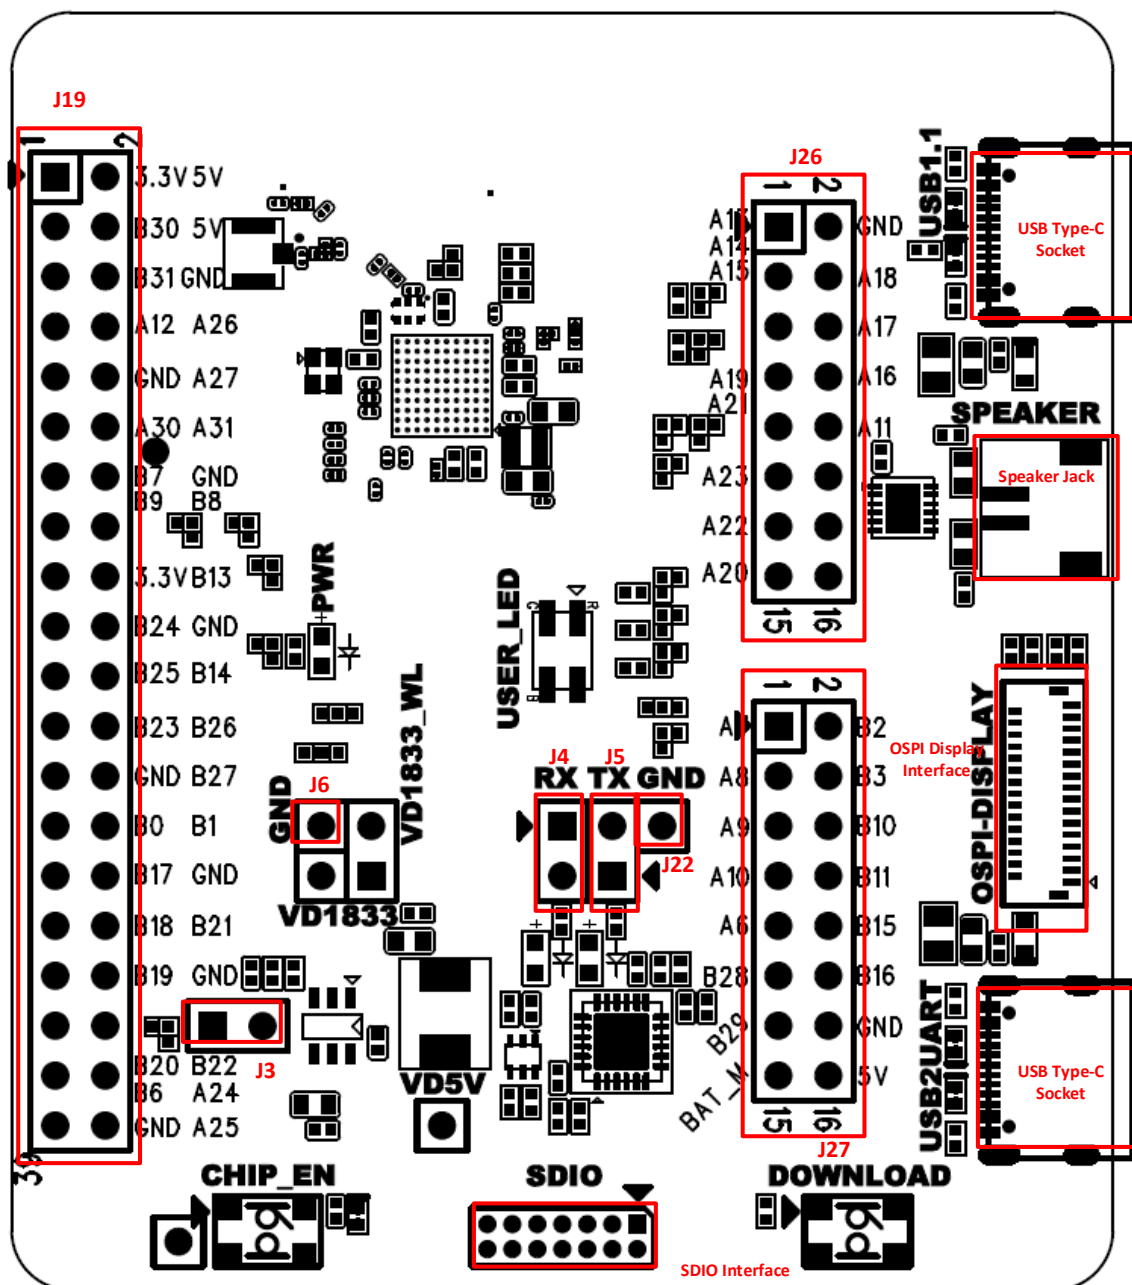

Figure 3-3 Connector top location diagram
- (1) Confirm the available pin for the function through the PINMUX document.
- (2) Find the location of the pin according to Figure 3-3 and Table 3-1.
Only connectors with numbers and the names described next to them can be configured in the Figure 3-3. Other connectors with no specific purpose are used for internal test or other reserved functions. Please do not configure them arbitrarily to avoid affecting the normal operation of the chip.